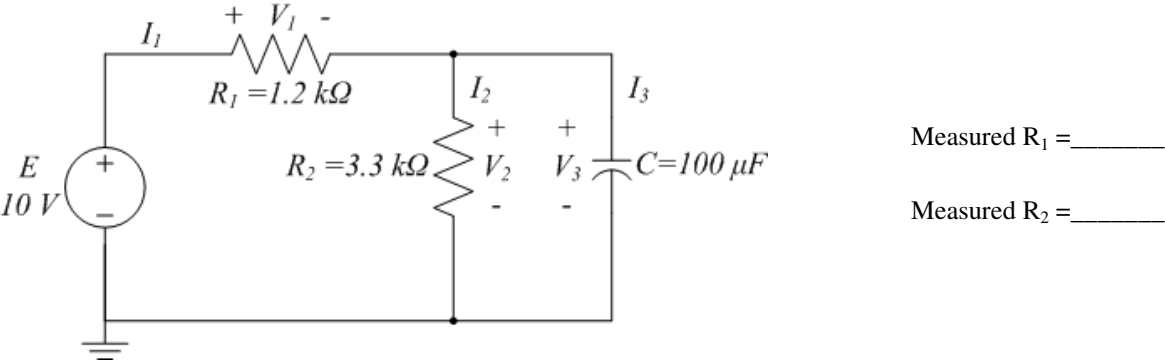

Figure 5.4: Parallel RC DC Circuit
1) Construct the network as shown in Fig. 5.4 Insert the measured resistor values.
2) Using the measured values, calculate the theoretical steady-state levels (time **greater than** five time constants) of all the voltages and currents for the network of Fig. 5.4 and record in Table 3 in the calculated row.